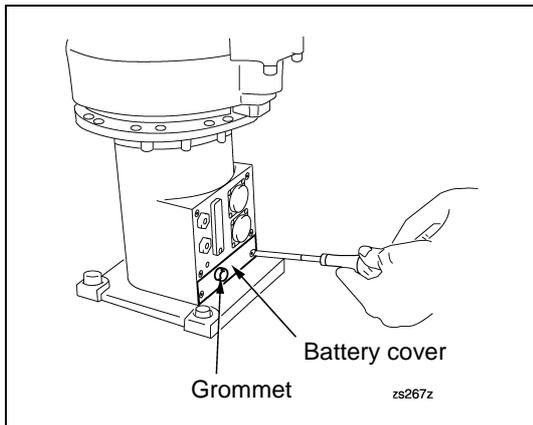

Figure 2-36
- (1) Remove the battery cover and the grommet from the robot unit. (See Figure 2-36.)